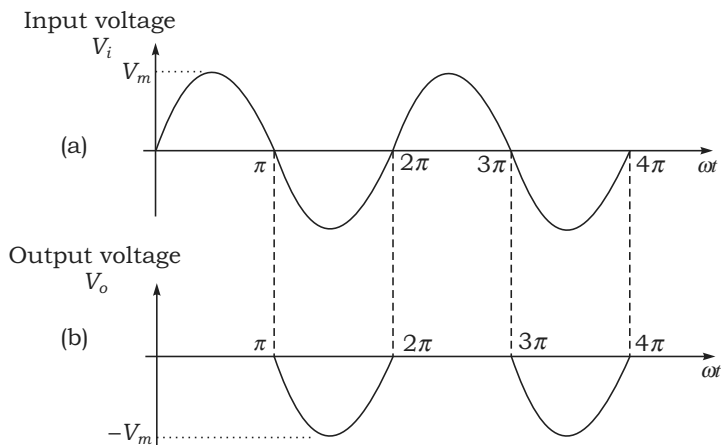

Fig. 5 Input and output voltage waveforms of positive clipper
Figure 5 shows the input and output voltage waveforms. During the positive half cycle of the input applied voltage, cathode (K) is positive with respect to anode (A). Therefore, all the input applied voltage drops across the diode and the voltage across resistance R_L is zero. Hence, during the positive half cycle, there is no output voltage. In the negative half cycle of the input applied voltage, the anode (A) is positive with respect to cathode (K). Consequently, there is no voltage drop across diode during negative half cycle of the input applied voltage. All the input applied voltage drops across the resistance (R_L) as depicted in Fig. 5(b).